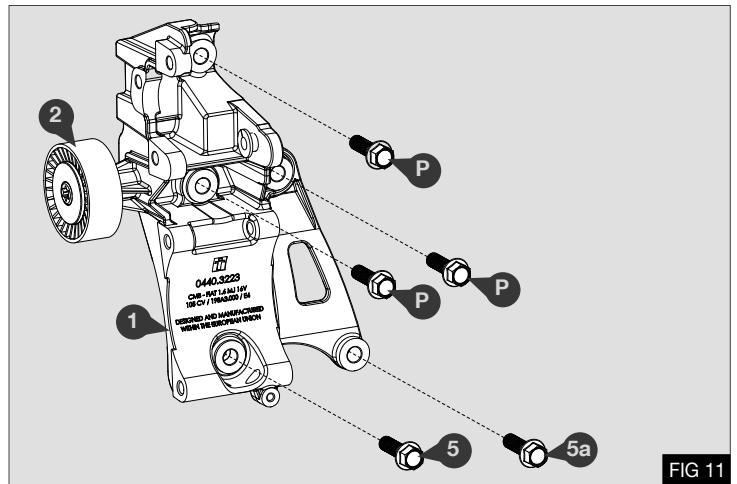

FIG 11
3. Install the mount bracket (1) to the engine block using three OE M10 bolts (P), and two M10 x 35 flange bolts (5) and (5a) - Fig 11
Torque bolts OE M10 x45 bolts (P) 58 Nm / 42.7 lb.ft and M10 x 35 bolt (5) and (5a) 58 Nm / 42.7 lb.ft - Fig 11
4. Now loosen the M10 x 35 flange bolt (5a) and temporarily remove to allow access - Fig 11